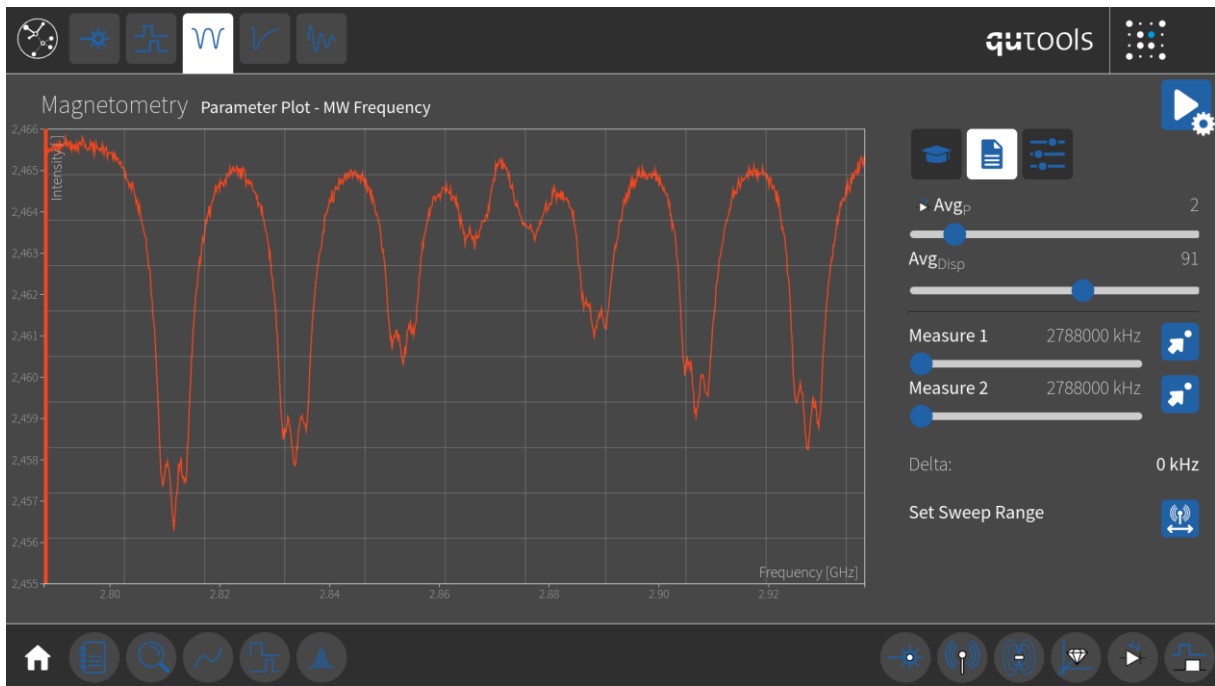

Figure 12 - With lower microwave powers, one can observe hyperfine splitting into three states in each of the dips.
- When changing the microwave power in the settings of the third tab, you'll be able to see the tip of each dip split into 3 smaller ones (Figure 12). This is due to the hyperfine splitting.